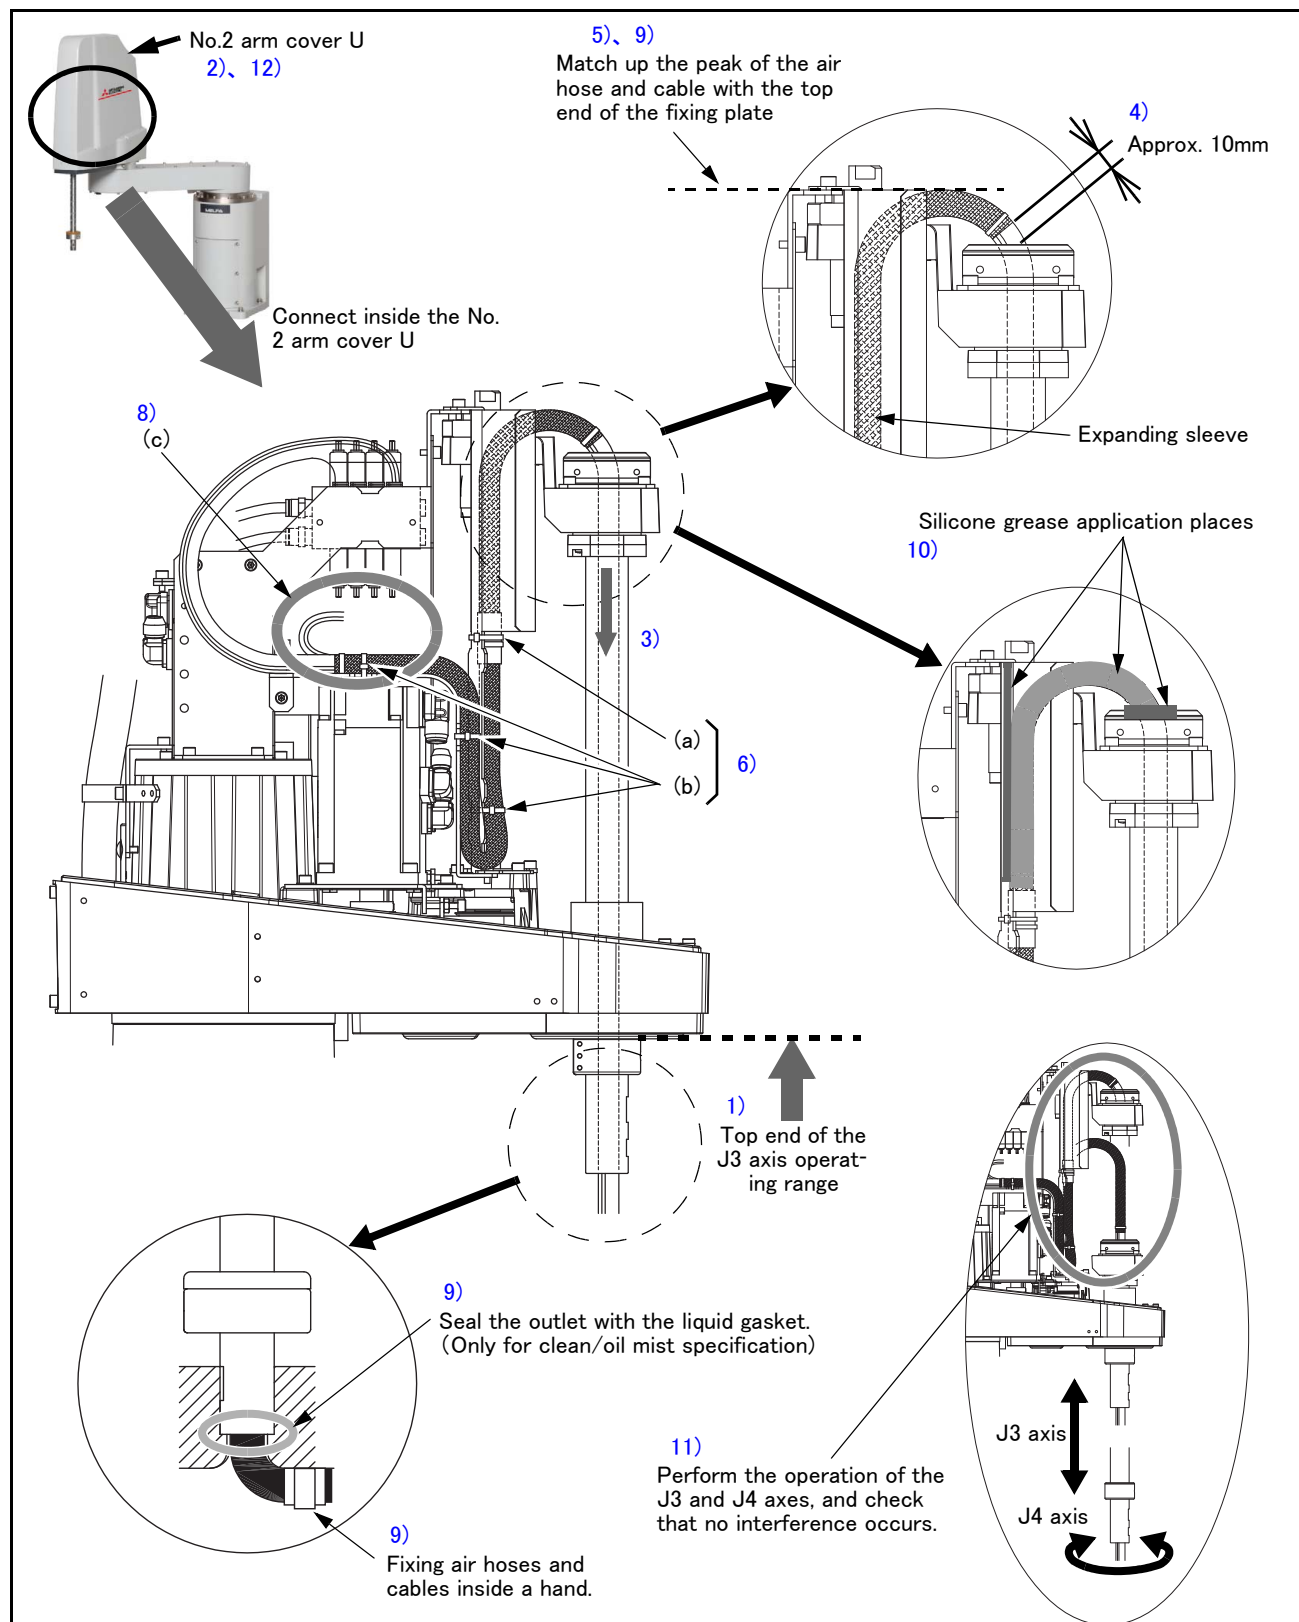

Fig.2-17 : Installation of air hoses and cables inside the robot's shaft (RH-6FRH series)
(5) RH-6FRH series
Refer to Page 30, "(3) Installation procedure" and install cables and air hoses correctly. The numbers in Fig. 2-17 are correspond to the same numbers in "(3) Installation procedure".